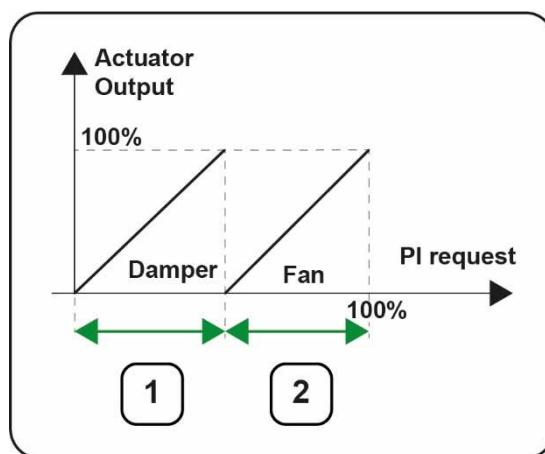

Fig 13 - Air quality regulator
1. increasing the output of modulating external dampers (**1 - Fig 13 -**)
2. on the modulating fans (**2 - Fig 13 -**), as described below: